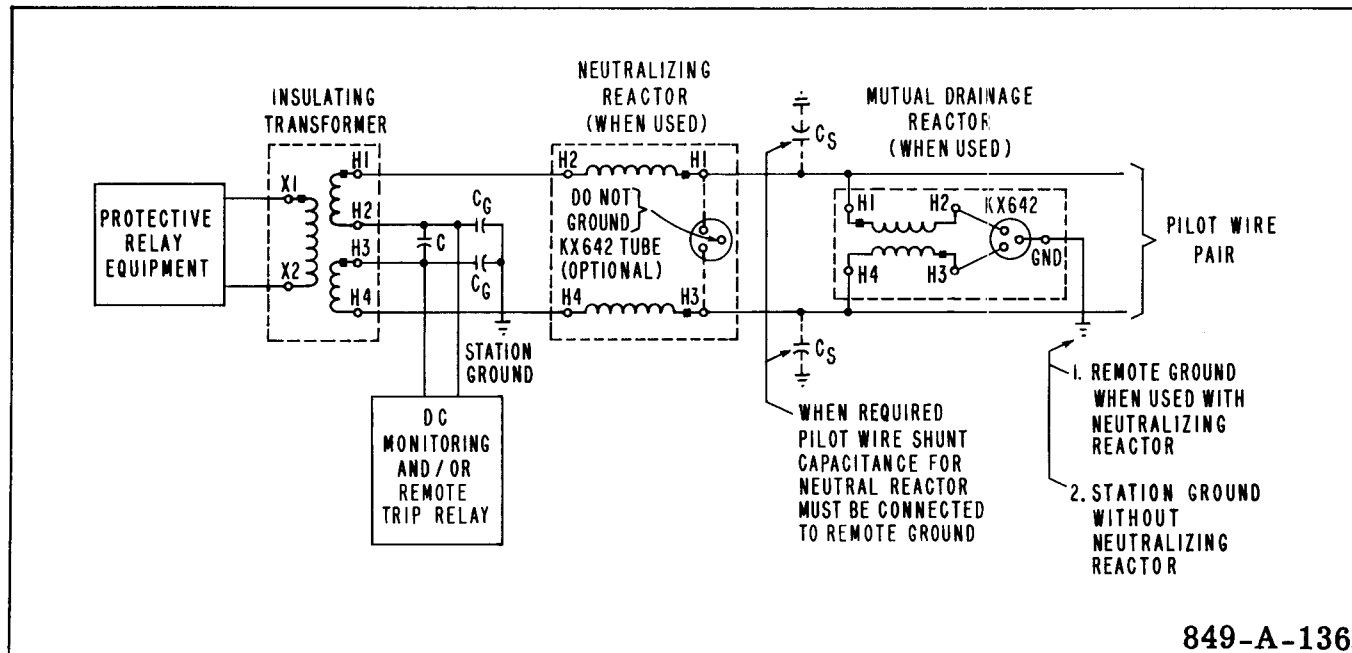

Fig. 1. External Schematic for Pilot Wire and Protective Equipment for HCB and HCB-1 Relaying.
The insulation and protection equipment shown in Fig. 1. is used with the HCB or HCB-1 pilot wire relay. A complete installation for one terminal of a line consists of an insulating transformer, neutralizing reactor, capacitors, mutual drainage reactors and neutralizing reactor KX642 tube.
The AC bypass capacitor (C) is required only when DC monitoring and/or remote trip relays are used. Otherwise connect H2 to H3 on the insulating transformer (refer to Fig. 1.). Use a 10 ufd capacitor for 50/60 H_Z applications.